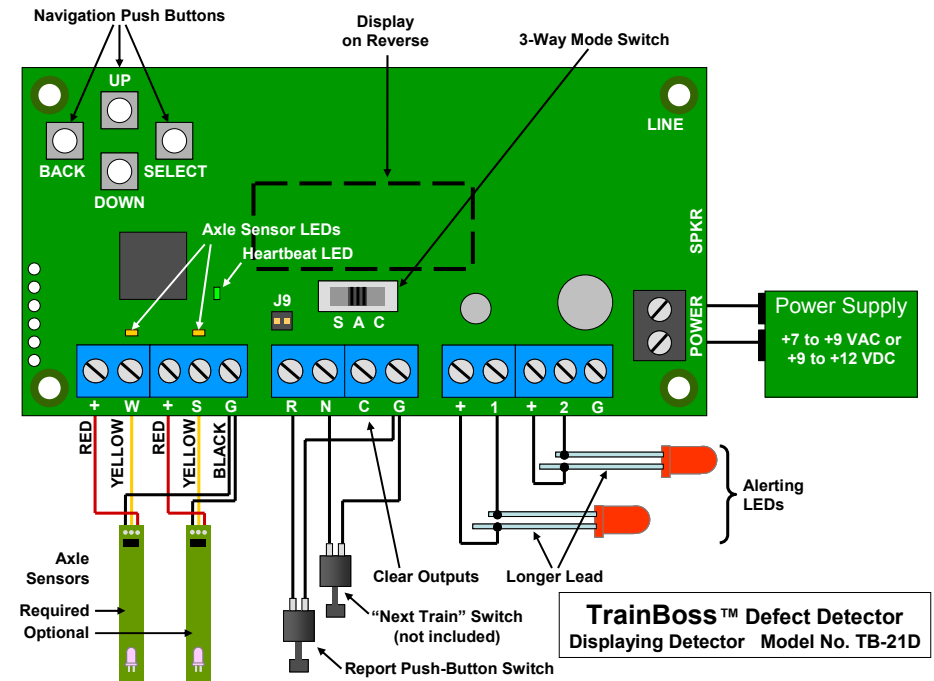

Figure 5: Circuit Board & Wiring Diagram
Figure 5 shows how to wire your **TrainBoss™ Defect Detector** for visual display reporting, along with key features on the circuit board.
1. Connect two wires from your power supply to the Defect Detector power **gray** terminals as shown in **Figure 5**. Polarity does not matter. The power supply must be 7 to 9 Volts AC or 9 to 12 Volts DC, with 250 mA capacity. Radio Shack sells an AC adapter (#273-314) that works well.
4. You can wire Alerting LEDs as in **Figure 5**. LEDs are polarity sensitive – connect the long and short leads as shown. Visit www.bouldercreekengineering.com/manuals.php for information on how to interface other electronics to these two outputs. (LEDs not included.)
- The **Report** Switch triggers or repeats a defect report. Connect the push button **Report** Switch (included) as shown in **Figure 5** and mount on your fascia.
- The **Next Train** Switch forces a defect report on the next train when pressed, which is nice for testing. If desired, connect a push button **Next Train** Switch (n. o. type – not included) as shown in **Figure 5**.
The 3-way Mode Switch positions are labeled S, A, and C. See **Figure 5**. Changing the switch position immediately puts the Defect Detector into a new mode: